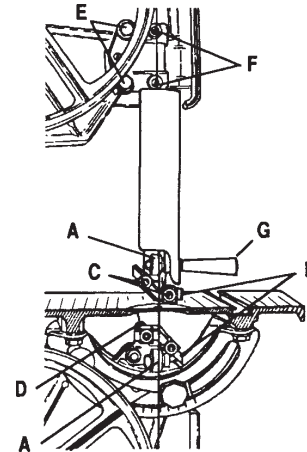

Fig. A-2
A Bandsaw blade is supported and guided from both above and below. See Fig. A-2. The lower blade guide consists of a roller bearing (98) to back up the blade and two guide blocks (101,106) to keep it from twisting. Each guide block is adjusted side-to-side by loosening an Allen screw (100), and front-to-back by turning the lower blade guide adjusting knob (103). You need only to adjust the lower blade guide roller bearing side-to-side. This is done by loosening the mounting bolt (110).